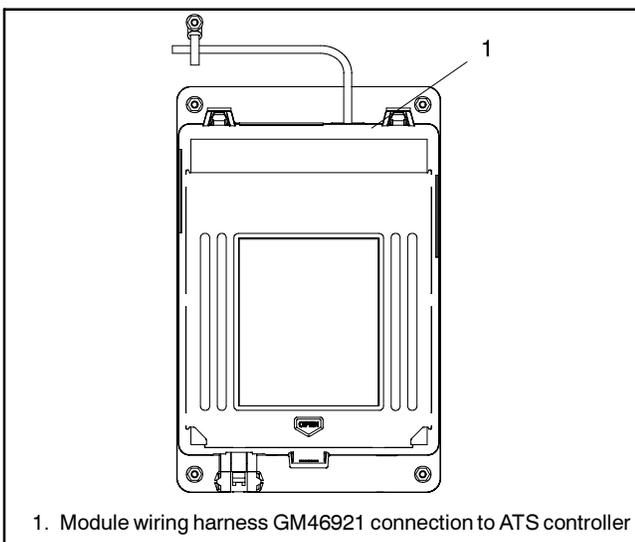

Figure 25 Module Harness Connection to ATS Controller
- Connect P1 on harness GM46921 to the ATS controls. See Figure 25.